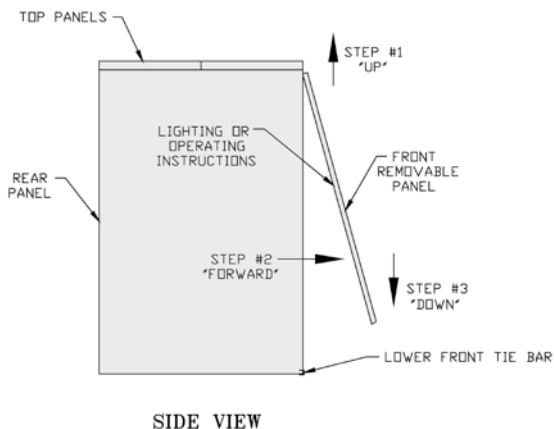

Figure 45: Front Door Removal
3. Remove front removable panel. See Figure 45.